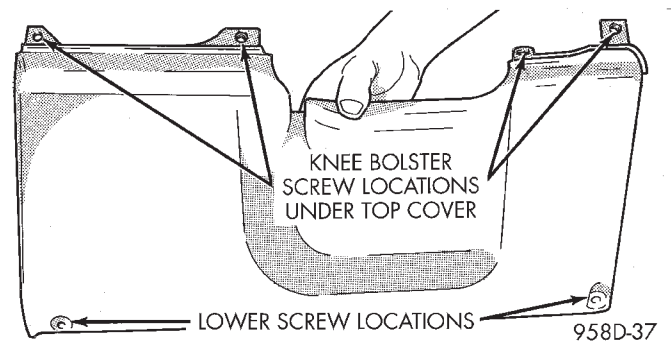

Fig. 7 Knee Bolster Attaching Screw Locations
(7) Remove top cover from instrument panel to gain access to knee bolster attaching screws.
(8) Remove screws attaching the knee bolster to the instrument panel (Fig. 7).